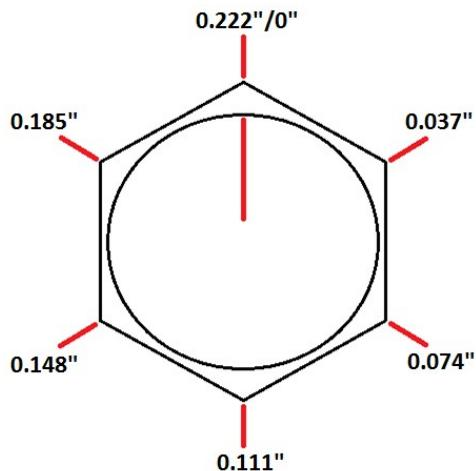

Figure 10-35: Example of Bolt Marking for Linear Travel Measurement
- Mark the heads of the pusher bolts at the 12 o'clock position, and mark the plate at the desired adjustment intervals. Figure 10-35 shows an example. Values will differ based on bolt-specific threads.
2. Mark the heads of the pusher bolts at the 12 o'clock position, and mark the plate at the desired adjustment intervals. Figure 10-35 on page 74 shows an example. Values differ based on bolt-specific threads. See also Sections 10.3.8.2 and 10.3.8.3 for calculation guidelines.